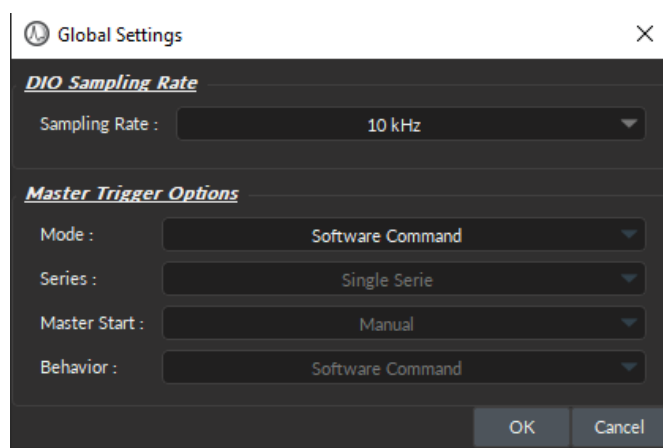

Figure 12.27: Global Settings Window
1. The **DIO sampling rate** (Fig. 12.27, 1) is the number of data points collected per second, measured in Hz or kHz. By default, the sampling rate is set to 10 kHz, but can range between 100 Hz and 100 kHz.
- The **Mode** (Fig. 12.27, 2) of the **Master Trigger Options** sets the origin (internal, external or time-series) of the trigger that will start the recording session and synchronize all the external and internal devices. Four options are available for different use cases:
- The **Master Start** (Fig. 12.27, 3) defines the source that will automatically start the recording. This source can either be: